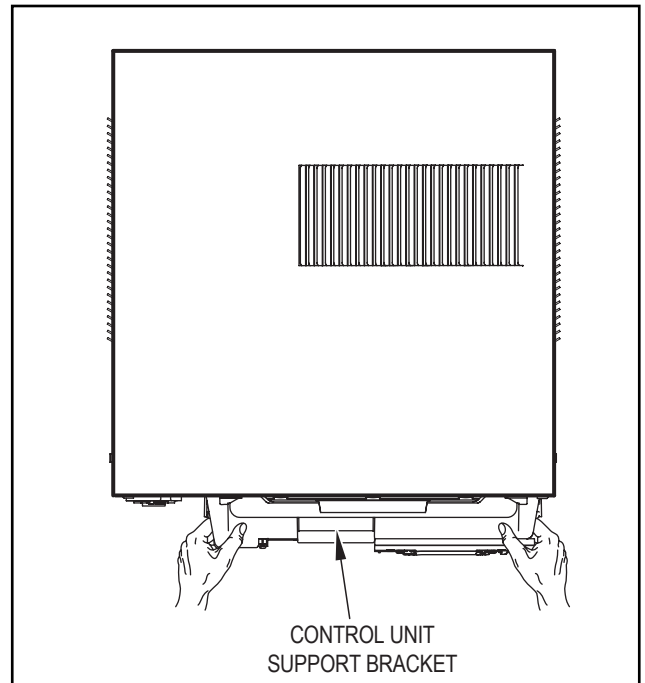

Figure C.5.2
STEP 2. Hold the cabinet stationary. Then, use the hand grips on both ends of the control unit support bracket to pull the chassis out of the cabinet (see Figure C.5.2).